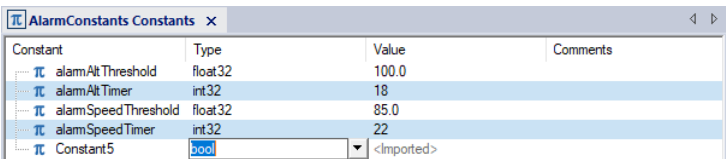

Figure 3.48: Constant View with imported constants
- 3 Double click the constant in **Scade View** to open the corresponding **Constants View**. The Value cell of the constant is uneditable and displays <Imported> as illustrated in Figure 3.48.